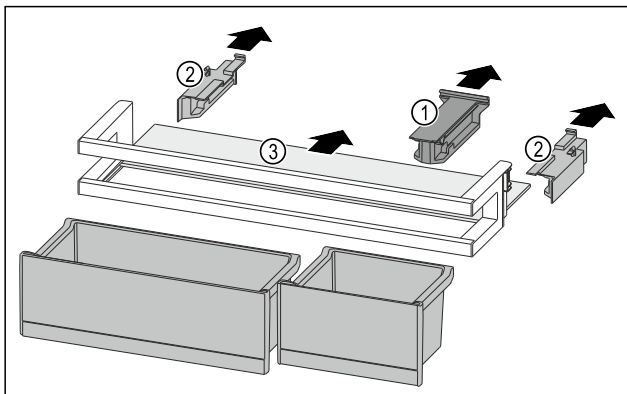

Fig. 84
- Pull off the retaining part Fig. 84 (1).
- Pull off the side part Fig. 84 (2).
- Remove the shelf Fig. 84 (3).